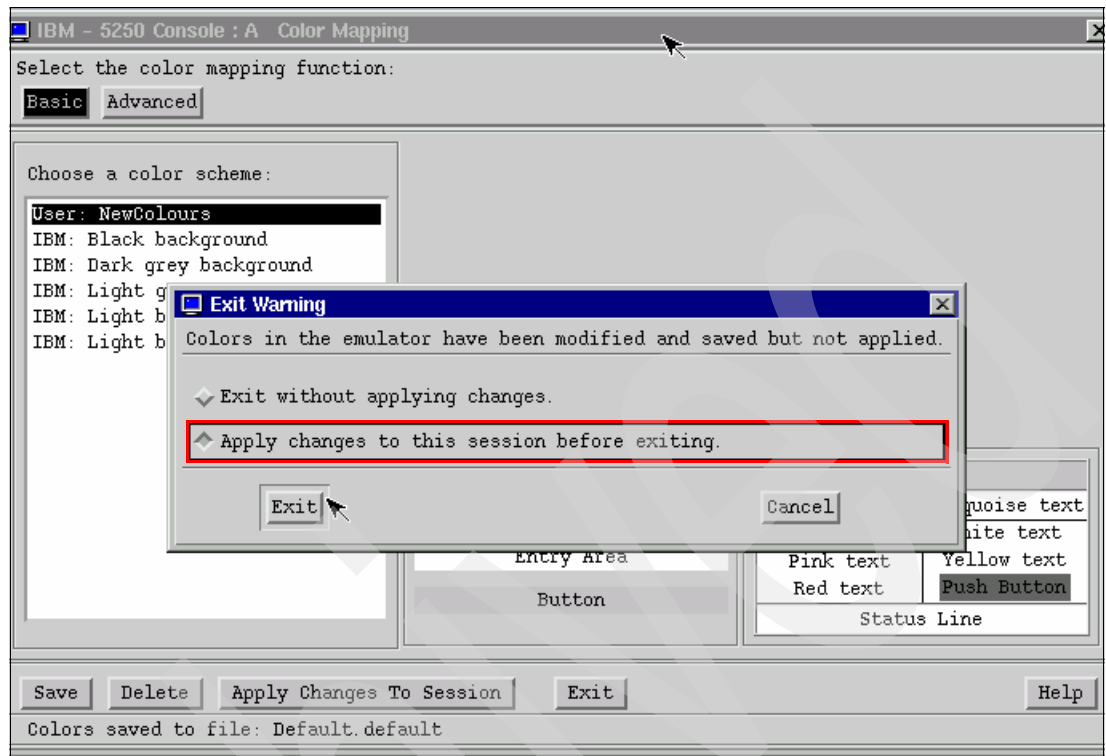

Figure 4-40 5250 session: Apply changes
- When you exit the window, you will be asked whether to apply the changes you just made to the current session. Select **Apply changes to this session before exiting** and click **Exit** (Figure 4-40).